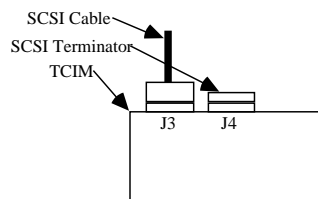

Figure 12. TCIM SCSI Termination.
**Figure 12 illustrates the proper SCSI configuration.**